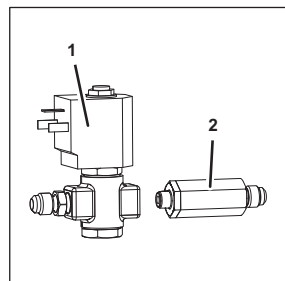

Figure 96
1. Disconnect the non-return valve (Figure 96/2) from the solenoid valve (Figure 96/1).
2. Apply Loctite to the new non-return valve (Figure 96/2).
3. Attach the non-return valve (Figure 96/2) to the solenoid valve (Figure 96/1).